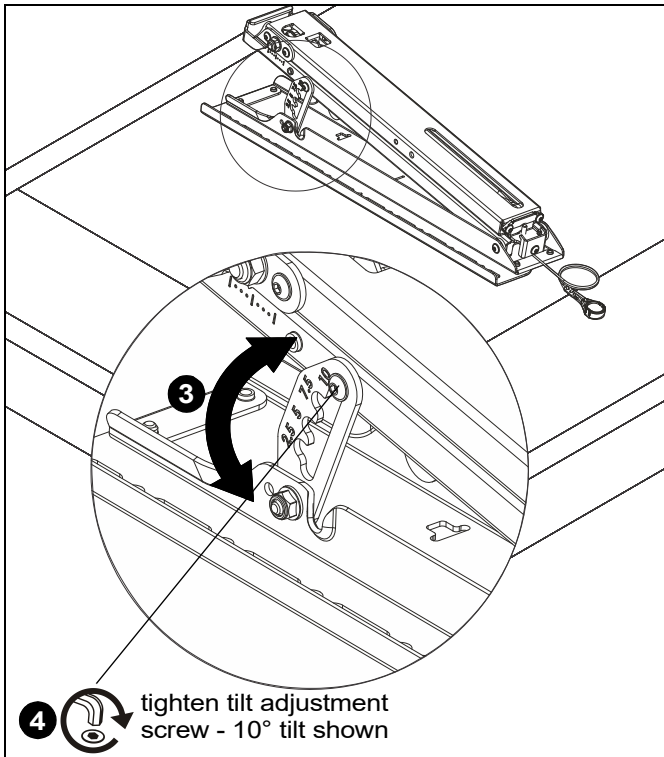

Figure 31
3. Adjust tilt to desired tilt angle. (See Figure 31)
4. Tighten tilt adjustment screws to lock tilt position. (See Figure 31)